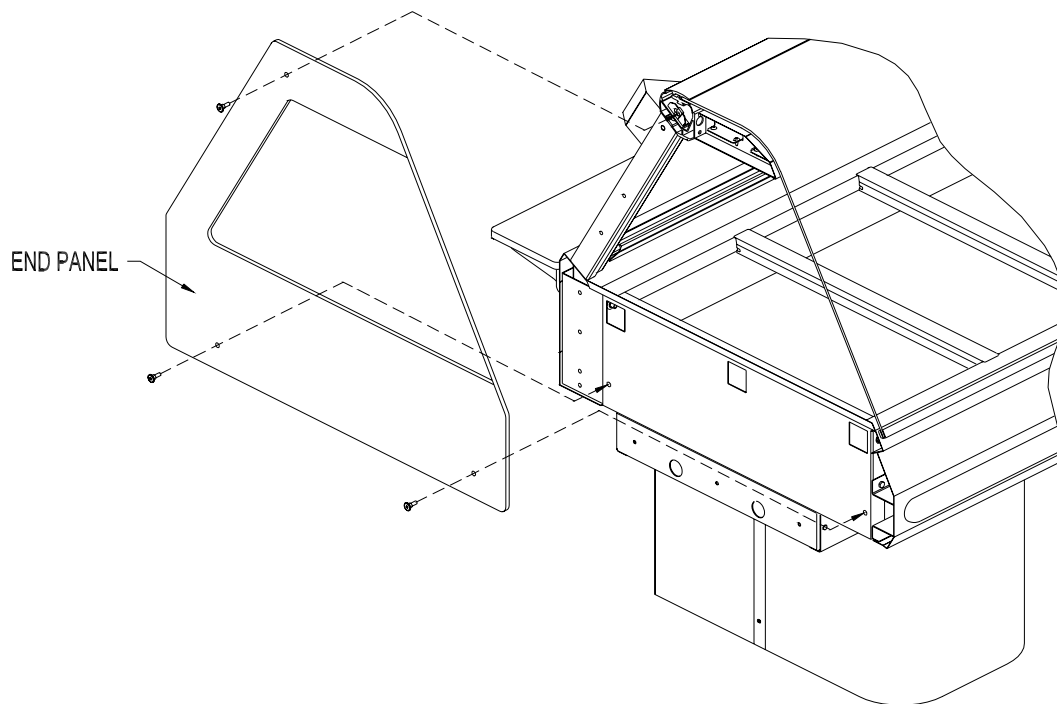

Figure 4. Pedestal Model - End Panel Mounting
1. Attach the End Panels to the ends of the case(s) as shown in Figure 4 using the shoulder screws provided.
Attach the End Panels to the ends of the case as shown in Figure 4 using the shoulder screws provided. The (2) lower shoulder screws shown in Figure 4 are not required on counter mounted cases.